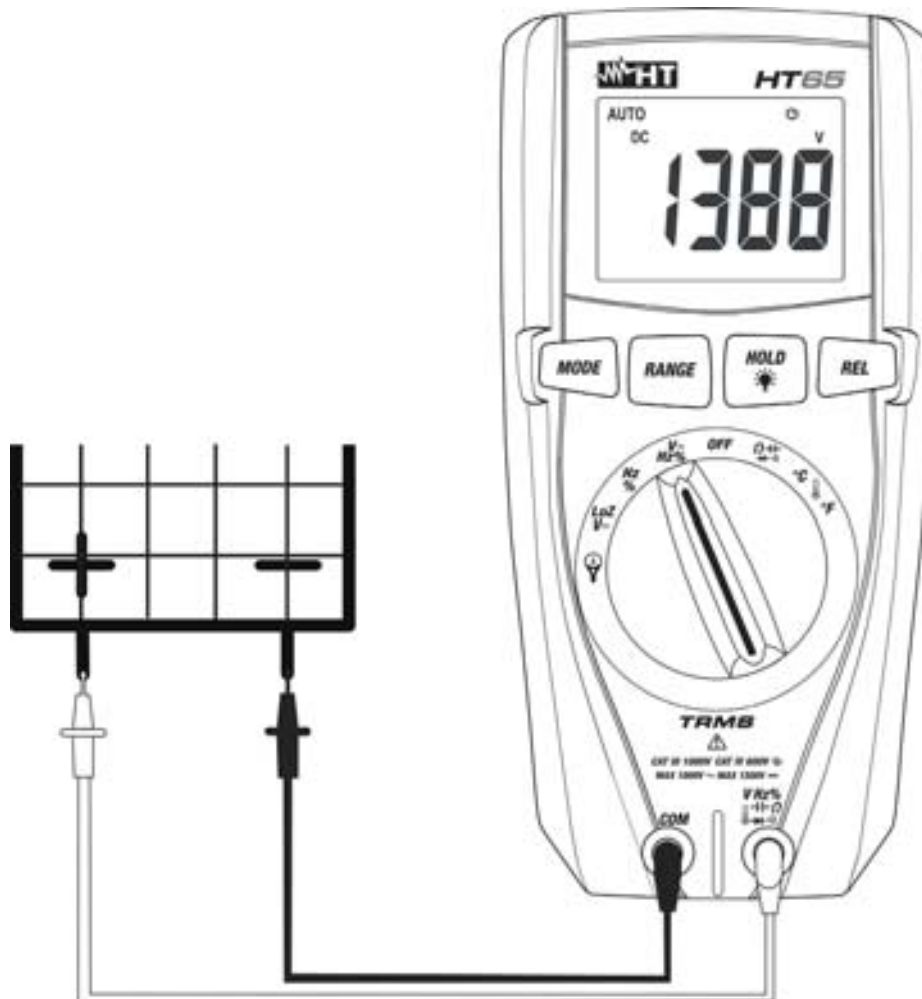

Fig. 2: Use of the instrument for DC Voltage measurement
4. Position the red lead and the black lead respectively in the spots with positive and negative potential of the circuit to be measured (see Fig. 2). The display shows the value of voltage.
6. When symbol "-" appears on the instrument's display, it means that voltage has the opposite direction with respect to the connection in Fig. 2.
4. Position the red lead and the black lead respectively in the desired spots of the circuit to be measured (see Fig. 4) or in the spots with positive and negative potential of the circuit to be measured (see Fig. 2). The display shows the value of voltage.
6. When symbol “**-**” appears on the instrument’s display, it means that voltage has the opposite direction with respect to the connection in Fig. 2